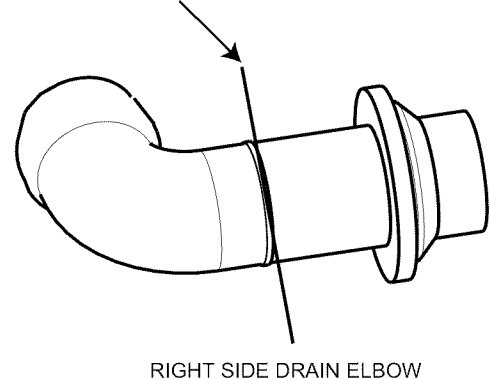

Fig. 15 - Modify Drain Tube
6. Remove the formed grommet on the tube by cutting the tube along the vertical line located about 1 in. (25 mm) away from the formed grommet. (See Fig. 15.)
5. Remove the formed grommet on the tube to create an elbow or straight connector. (See Fig. 15.)